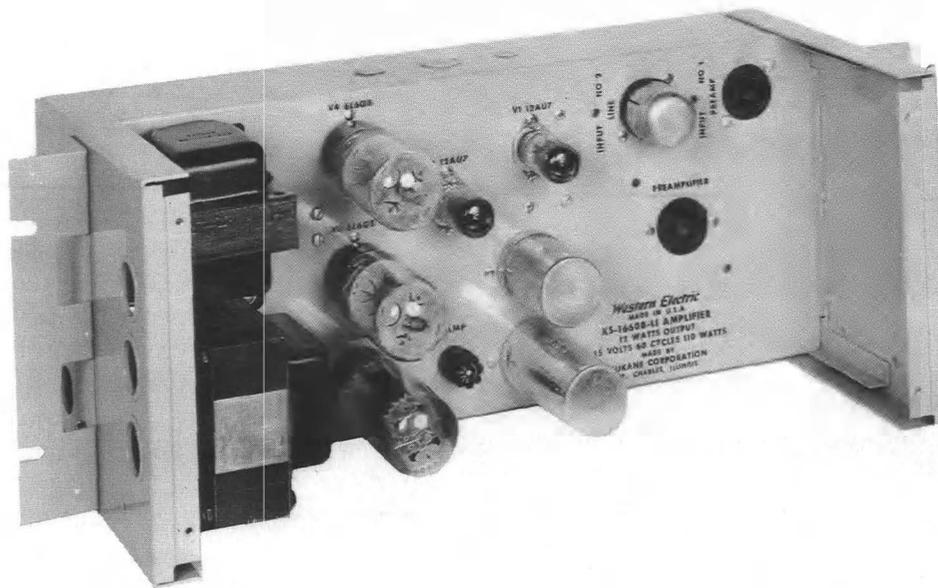

Fig. 3 - Rear View Showing 9-Pin Shorting Plug
1.07 Fig. 3 shows a rear view photograph of the amplifier with a 9-pin shorting plug mounted in the INPUT NO. 2 LINE socket. The amplifier is equipped with one shorting plug.